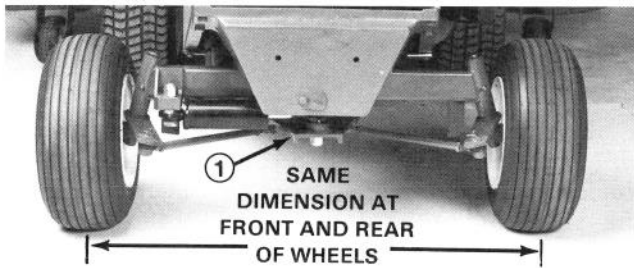

Figure 54
2. Loosen the jam nuts on both tie rods. Adjust both tie rods until center-to-center distance at front and back of rear wheels is the same (Fig. 54).